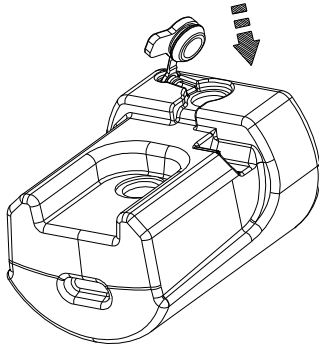

Figure 3
- 1-3. Fill in appropriate amount of purified water, and then put the sealing plug back to water tank, as shown in Figure 3;